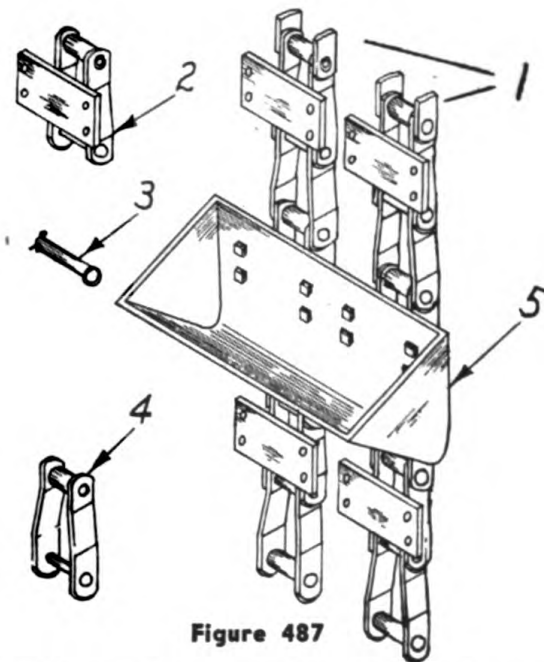

Figure 487
A bucket (5) figure 487 or number of buckets may be unbolted and removed from the chain.